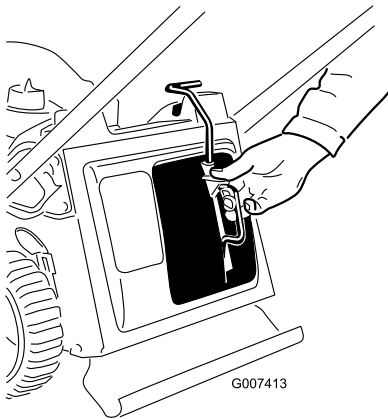

Figure 9
2. Squeeze the button on the lever with your thumb and fully insert the recycle plug into the opening (Figure 9).